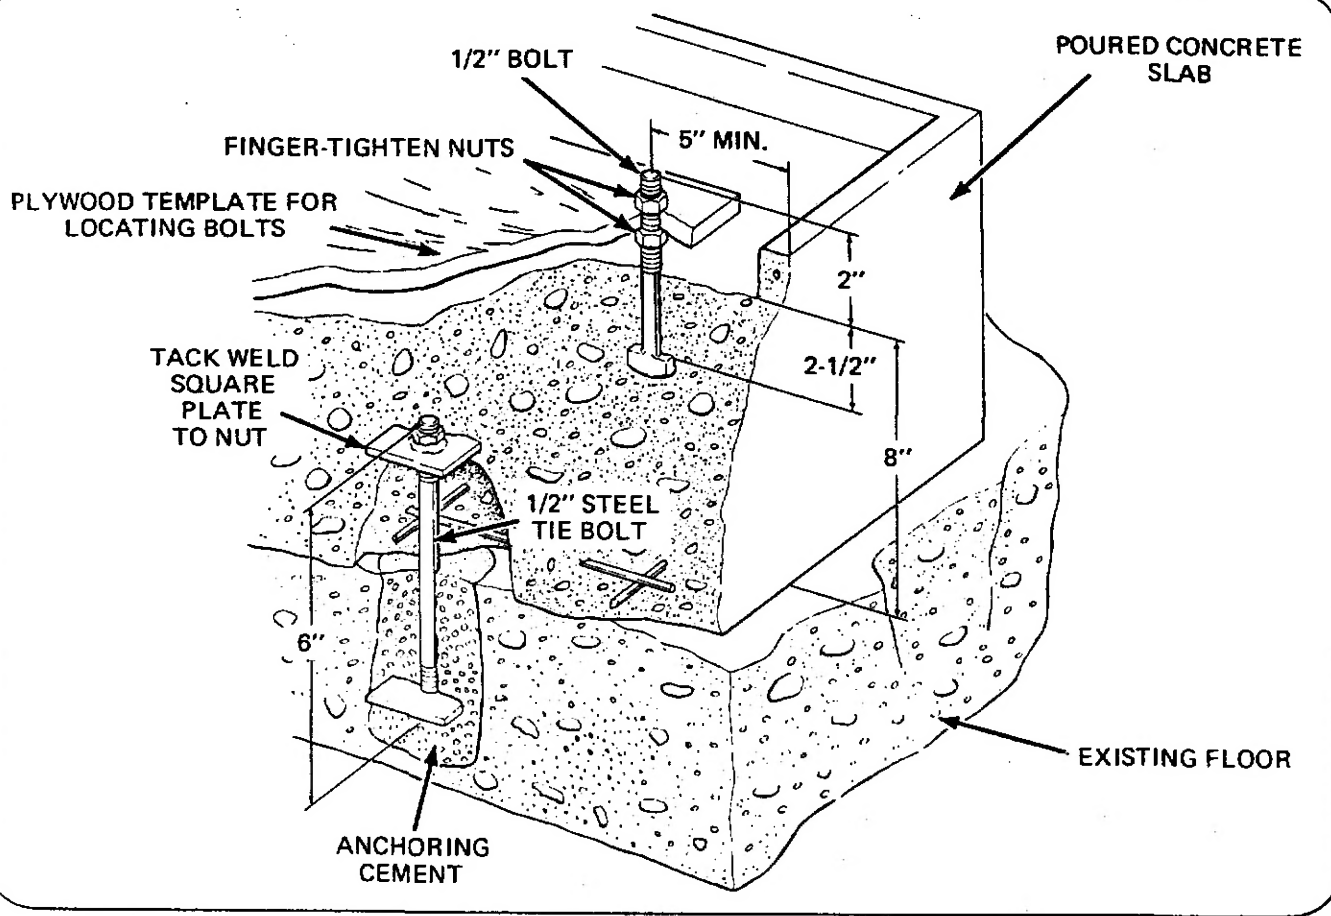

Figure 3
- Place four, 1/2 inch diameter steel tie-bolts (6 inch minimum length), with tack welded square washers attached, into center of holes, *Figure 3*.
- j. Fasten mounting bolts to plywood template with nuts. See Figure 3.
- l. Carefully place mounting bolts (with template attached) in wet concrete as shown in Figure 3. Level template from side to side and front to rear, making sure mounting bolts extend the length of the threads (2") from concrete.